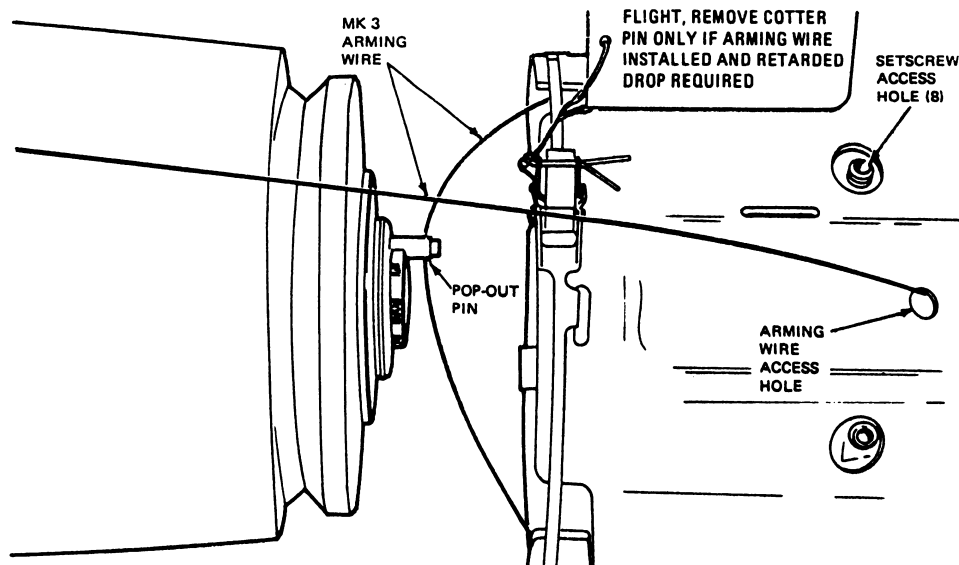

Figure 12-50.—Routing of arming wire Mk 3 (Mod 3 and Mod 4 fins).
8. Thread the arming wire through the pop-out pin of the tail fuze. (See figure 12-50.) Then pass the wire through the small hole at the bottom of the fin support.